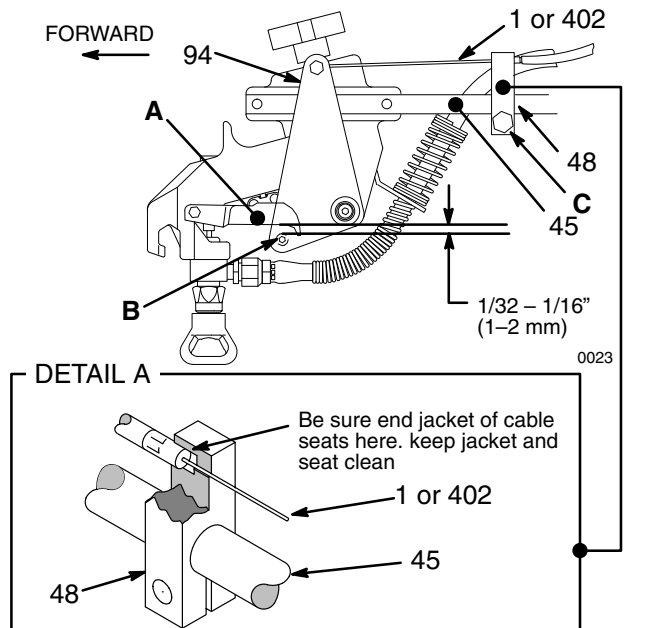

Fig. 21
To reduce the risk of an injection injury due to remotely triggering the gun by accident, always disengage the trigger cable from the block before handling the gun. See Fig. 21 DETAIL A. **The gun will trigger briefly when releasing the cable!** Before you remove the gun from the holder, engage the gun's trigger safety latch.
1. To disengage the cable, grasp the cable (1 or 402) just behind the block (48). Pull the cable back about 1/2 inch (13 mm) and then up and out of the block. **The gun will trigger briefly!** See Fig. 21.
2. To engage the cable, slide the cable (1) into the block (48), making sure the end of the cable jacket seats firmly in the seat of the block. **The gun will trigger briefly!** See Fig. 21.
Trigger Cable Tension Adjustment See Fig. 21
Do not allow the cable (402) to rub against the outside edges of the slot (H) in the block (48), to prevent premature wear of the cable. Rotate the block slightly to eliminate rubbing. See Fig. 21 DETAIL A.